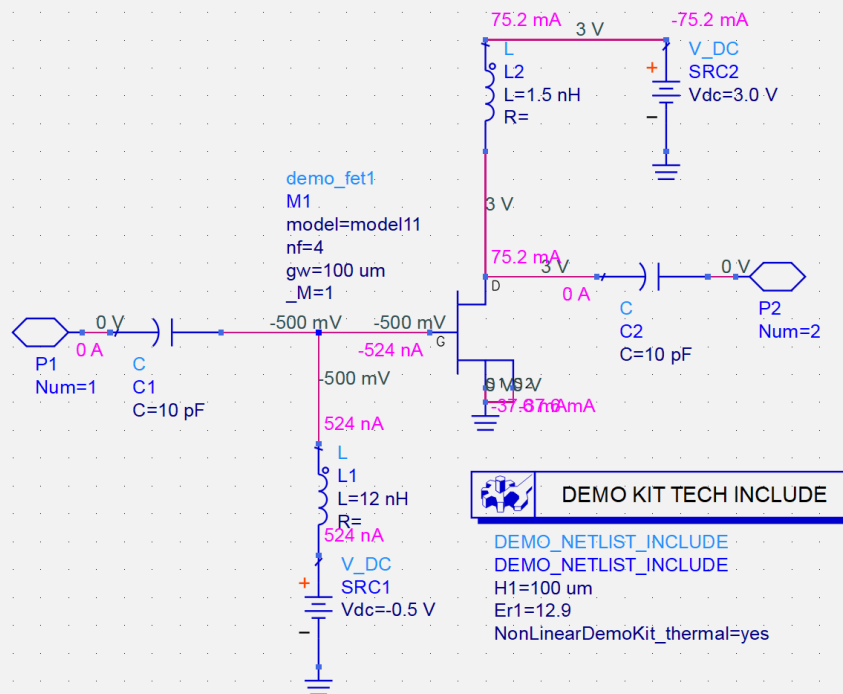

Figure 10. DC simulation annotation
4. Examine the schematic for the DC voltage values. If you want to view the current values, go to **Simulate > DC Annotation > Annotate Pin Current**. The minus sign for the current indicates the direction (into or out of a node). The DC annotations for the schematic are shown in Figure 10.